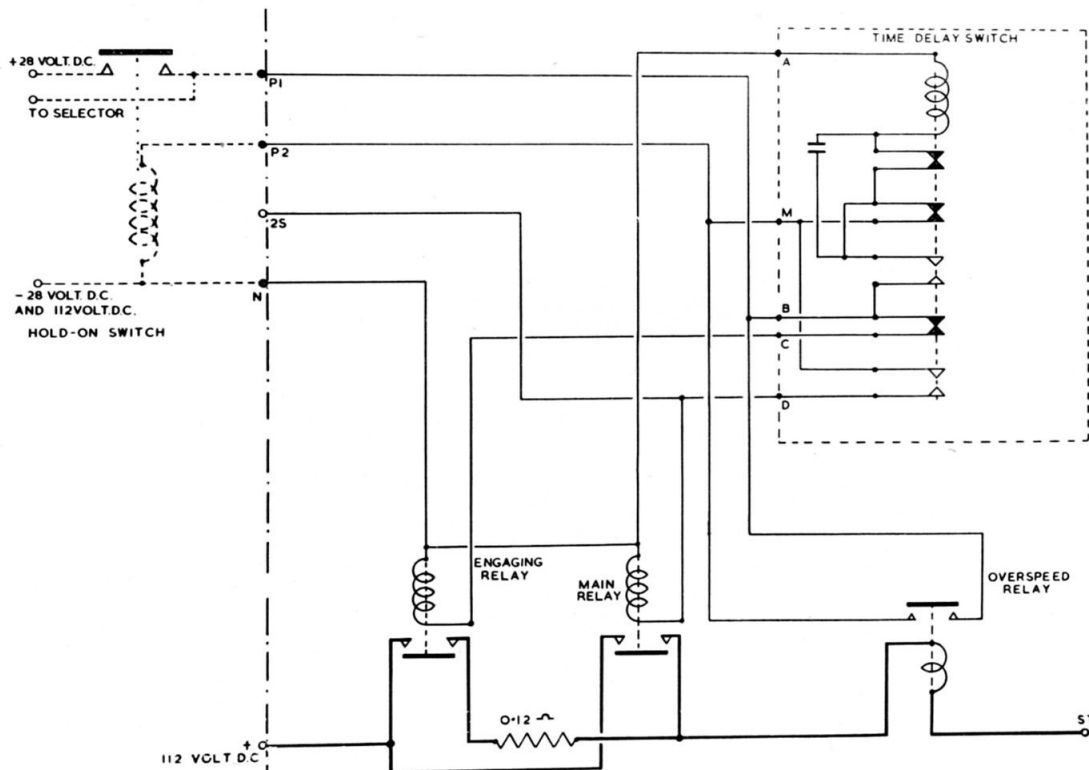

Fig. 2. Circuit diagram
3. The U1707 starting switch consists of a light alloy panel upon which are mounted identical main and engaging relays. (Stores Ref. 5CW/4318) with an overspeed relay (Stores Ref. 5CW/4760) and a time delay switch (Stores Ref. 5CW/4719). These are bolted to the panel and wound as shown in the circuit diagram (fig. 2). Copper busbars are used for internal high voltage connections. The complete starter panel is protected by a louvered, drip proof cover.
to the operation of the panel, but not included in it, is a hold-on switch (Stores ref. 5CW/4403 or other similar type) as shown in the circuit diagram (fig. 2).